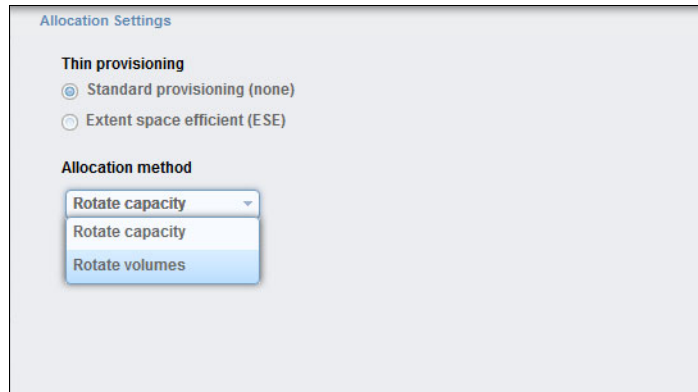

Figure 11-99 Create CKD Volumes: Advanced: Allocation Settings
3. Click **Allocation Settings** to open the Allocation Settings window that is shown in Figure 11-99.